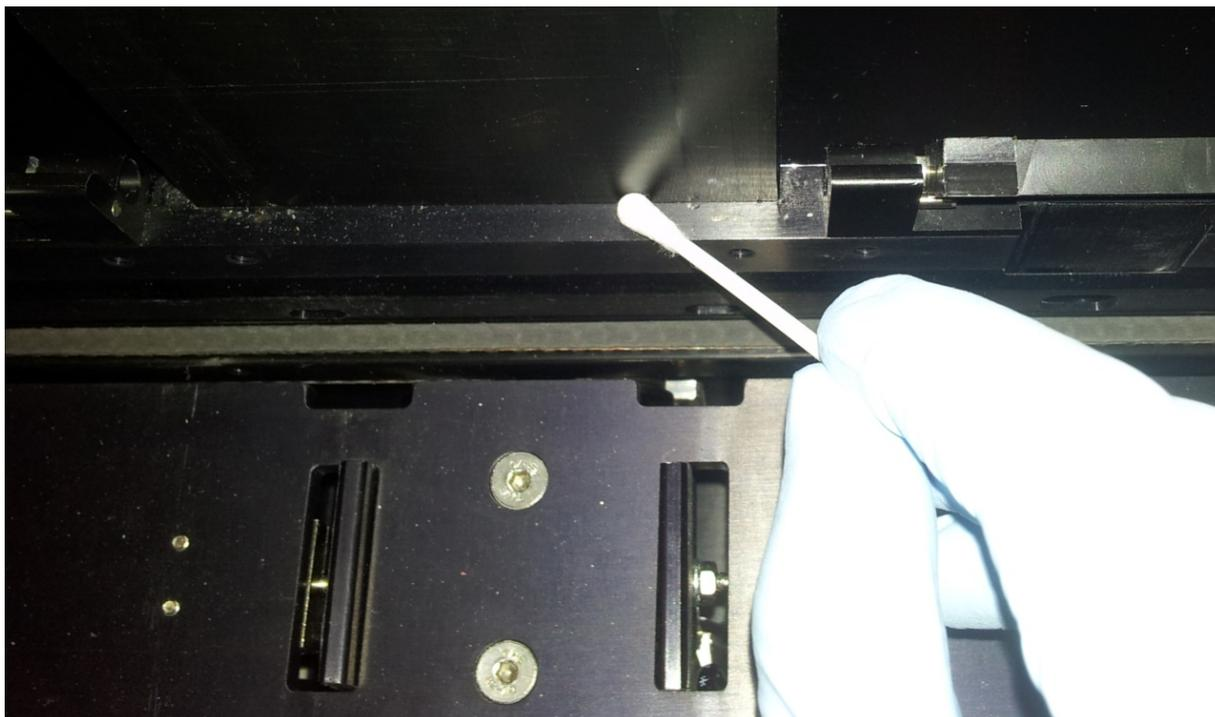

Figure 78 Clean the area where the aluminum stacks rest on the stacker area with a cotton swab
- a. If the waste bin pipe has become contaminated, use a proper decontaminant which is compatible with acrylic (PMMA) and polycarbonate (PC). Wear protective equipment and observe the general safety precautions as described in 2 and Appendix C
- b. Ensure that the stacker base is clean without any debris or dust in the area where the stacks (aluminum towers for QChip and compound plates) rest on the base unit. Remove the stacks and use a cotton swab once a week to clean the base area below the stacks (see Figure 78). Take care to prevent debris and dust entering into moving, mechanical parts